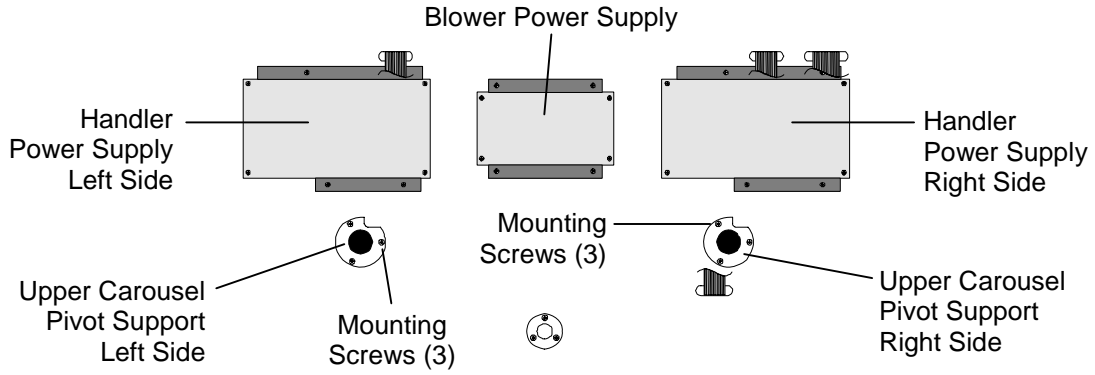
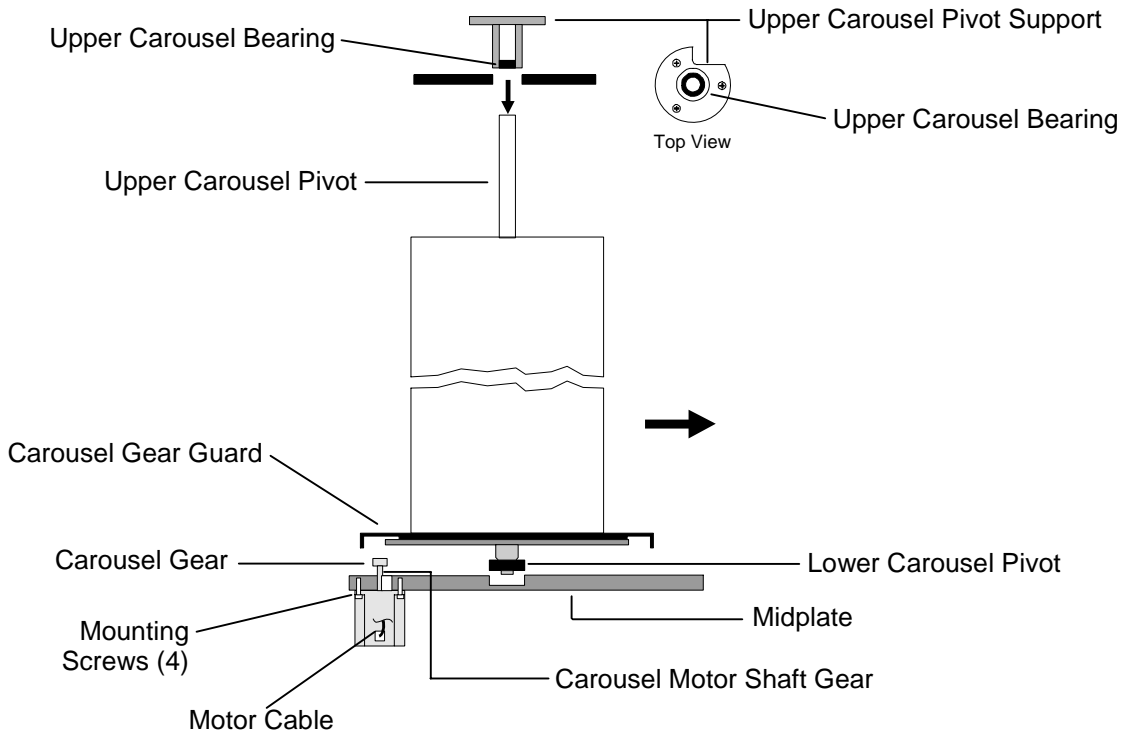

Figure 7-74 Dual Bay TLS Top View
Figure 7-75 Dual Bay Carousel Assembly
13. Use a number 2 Phillips screwdriver to remove all three mounting screws from the Upper Carousel Pivot Support (Figure 7-74), then lift the Upper Carousel Pivot Support up out of the TLS (Figure 7-75).
14. Lift the Carousel up until the Lower Carousel Bearing clears the Midplate, then move the Carousel about three inches forward, then about two inches toward the right side of the cabinet (Figure 7-75). This will allow the Carousel Motor Shaft Gear to be moved freely.
15. Working from the front and rear of the TLS use a 7/64" Allen wrench to remove all four Carousel Motor mounting screws (Figure 7-75). Note that a combination of short and long arm 7/64" Allen wrenches may be needed to access the various mounting screw locations.
2. Align the mounting holes in the Carousel Motor with the corresponding mounting holes in the TLS' Midplate. The motor's cable will face the left side of the TLS when properly oriented (Figure 7-75).
5. Align the lower Carousel Bearing with the TLS Midplate, then lower the Carousel down into place (Figure 7-75). Be sure to align the Carousel Gear with the gear on the Carousel Motor shaft as you lower the Carousel into position.
6. Align the Upper Carousel Bearing with the Upper Carousel Pivot Support, then lower the Upper Carousel Pivot Support down through the top of the TLS onto the Upper Carousel Pivot (Figure 7-75).
7. Align the mounting screw holes in the Upper Carousel Pivot Support with the mounting screw holes in the TLS, then use a number 2 Phillips screwdriver to install all three Upper Carousel Pivot Support mounting screws (Figure 7-74).